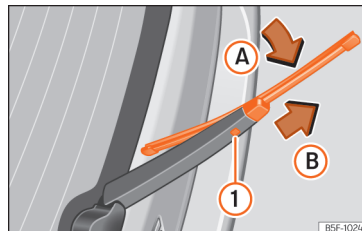

Fig. 52 Changing the rear wiper blade
- Turn the blade slightly »» Fig. 52 (arrow ❸).
- Hold down the release button ❶ while gently pulling the blade in the direction of arrow ❷.
- Insert a new blade of the **same length and type** in the rear wiper arm in the opposite direction to the arrow ❷ and hook into place button ❶.